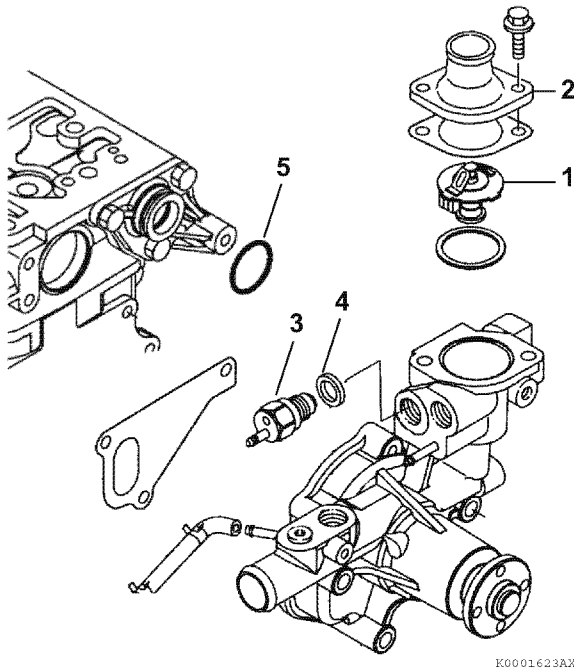

Figure 8-12
1. Reinstall the thermostat (Figure 8-12, (1)) and a new O-ring.
2. Reinstall the thermostat cover (Figure 8-12, (2)) and a new gasket. Tighten the thermostat cover bolts.
3. Reinstall the temperature switch (Figure 8-12, (3)) and a new gasket (Figure 8-12, (4)).
1. Position the engine coolant pump on the engine and install a new gasket. Install a new special O-ring (Figure 8-12, (5)) on assembly between the engine coolant pump and the joint.